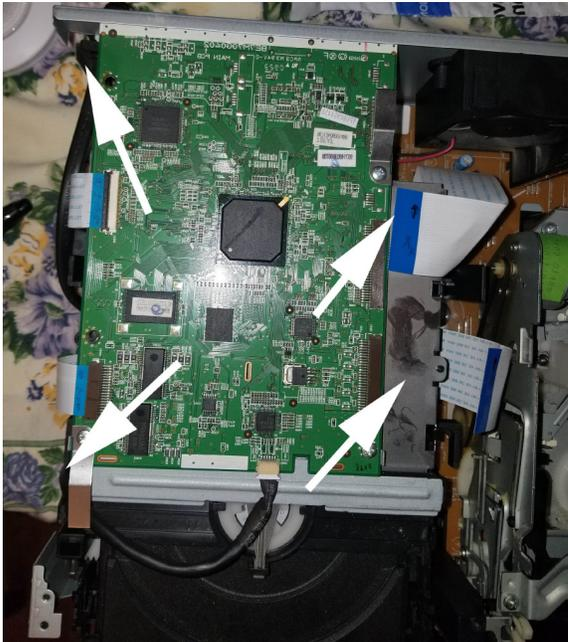
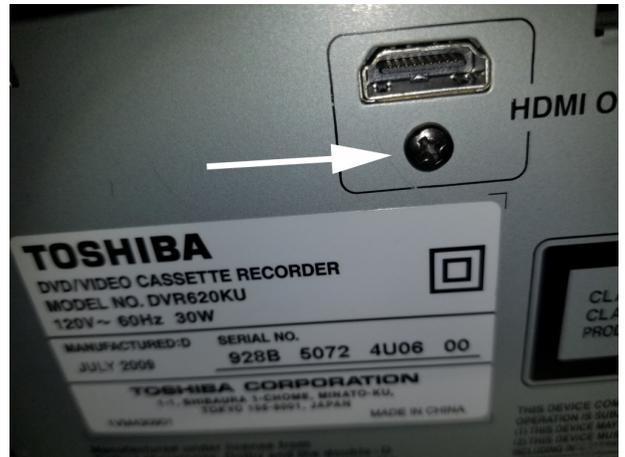

Fig. 8 – 4 screws
Fig. 9 – 5th screw under hdmi port
Step 6 – Unscrew DVD player from the framework. Do this by unscrewing 4 screws holding the player to the framework (Fig. 8). Unscrew one screw under the HDMI port on the back (Fig. 9). Don't unscrew the screws holding the circuit board to the DVD player frame.